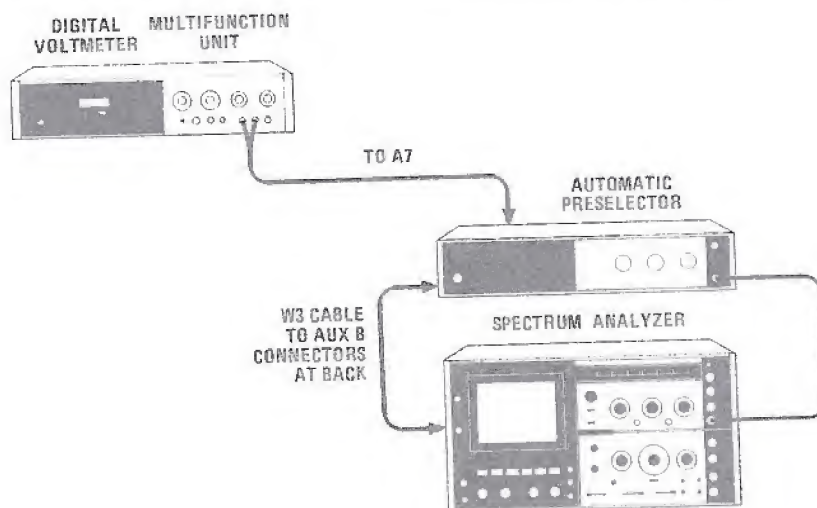

Figure 5-4. Digital Panel Meter Adjustment Test Setup
1. Connect the equipment as shown in Figure 5-4. After turning on the LINE power to the instruments, allow 30 minutes for the circuits to stabilize.
3. Connect the + lead of the multifunction digital voltmeter to the standoff on DPM Driver Board A7A2 to which the white-blue (96) wire is connected. Connect the - lead to the standoff on A7A2 to which the violet (7) wire is connected (violet wire is signal ground).